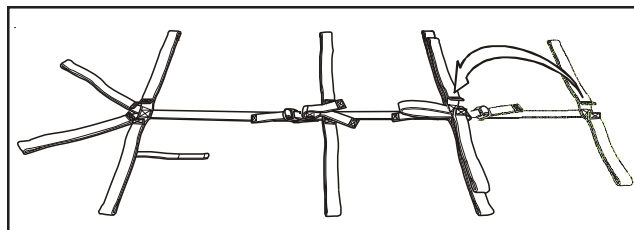

Figure 9 - Folding the Foot Strap
3. Stack the gray ankle strap on the green thigh strap (Figure 9).